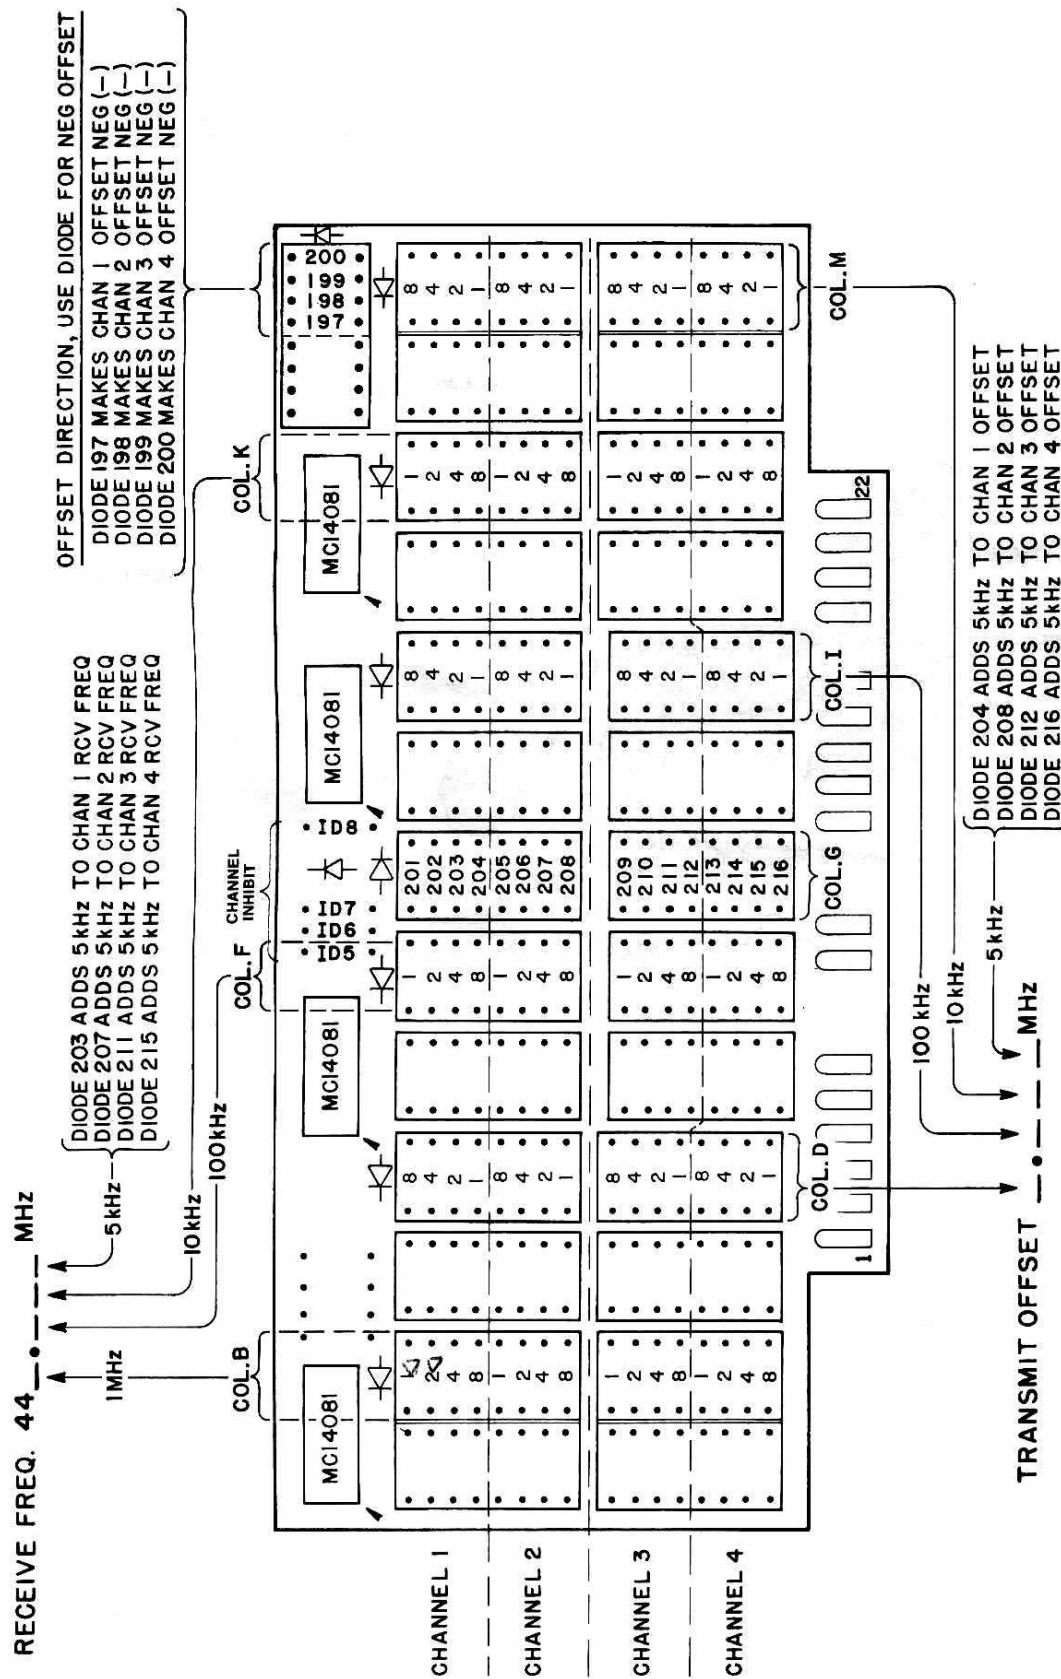

Figure 3-7. 440 Programming
Programming the 440 MHz band is performed in the same manner as described above for the 220 MHz band. The BAND switch programs 440 megahertz into the synthesizer in the "440" position. Refer to figure 3-7, again, it is only necessary to program the remainder of the desired receive frequency for each of the channels, and the corresponding offset for that channel. Program the units megahertz value of receive frequency into column B (note direction of diode), using the required combination of (1), (2), (4), and (8) diodes. The 100 kilohertz value is likewise programmed into column F, and the 10 kHz value is programmed into column K. A single diode in position 203 of column G, adds 5 kHz to Channel 1. A 5 kHz value is programmed into Channels 2, 3, or 4 by placing a single diode in position 207, 211, or 215 respectively.
The transmit offset frequency is programmed into columns D, I, and M. Refer to figure 3-7, for the location of columns D, I, M, and the direction of diodes for these columns. The megahertz value of offset is programmed into column D using a (1), (2), (4), or (8) diode value. Column I is similarly programmed to provide the desired 100 kHz value and column M is programmed for the desired 10 kHz value. A single diode adds 5 kHz to Channel 1 in position 204 of column G (note diode direction). Diode positions 208, 212, and 216 may be programmed to add 5 kHz to Channels 2, 3, and 4 as required. Offset direction for Channel 1 is negative if a diode is used in position 197. Diode positions 198, 199, and 200 may be programmed for negative offset for Channels 2, 3, and 4 respectively.